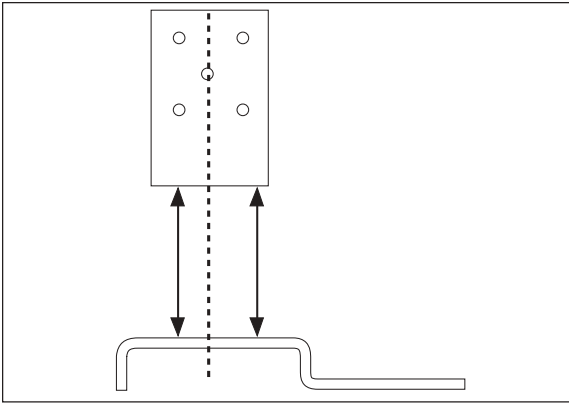

Figure 5
1. The upper bracket (B) must be parallel and perpendicular to the lower bracket (C1, C2). See Figures 5 and 8.